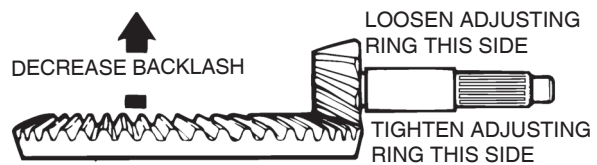

Figure 5.46
- To decrease the backlash, move the ring gear toward the drive pinion. Figure 5.46.